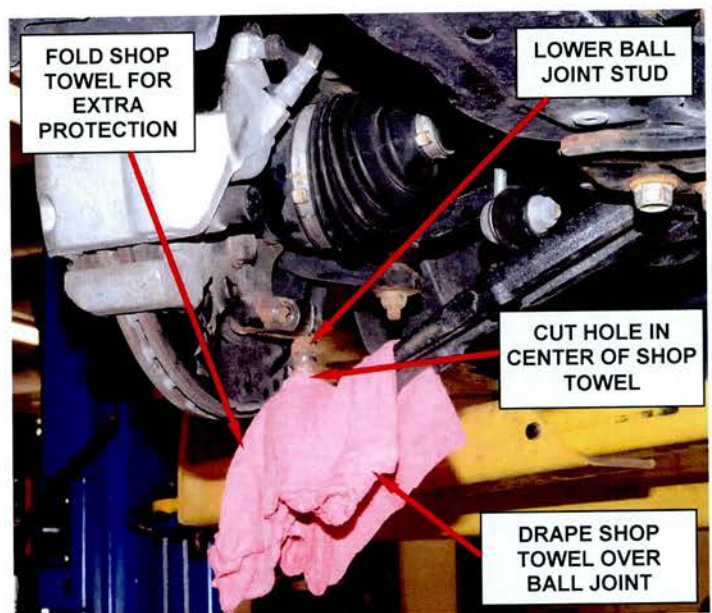

Figure 7 – Place Shop Towel Over Ball Joint Boot
7. Wrap the lower ball joint in a shop towel to protect the ball joint boot from being damaged (Figure 7).